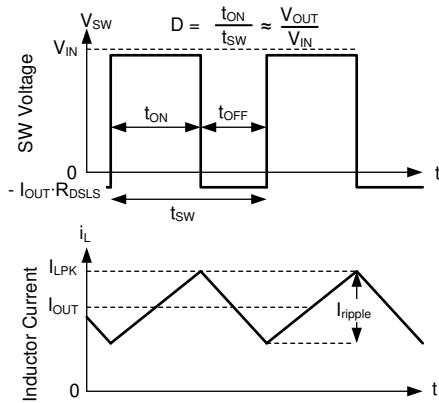

Figure 7-14. SW Voltage and Inductor Current Waveforms in Continuous Conduction Mode (CCM)
The following operating description of the LMR36506 refers to Section 7.2 and to the waveforms in Figure 7-14. In CCM, the LMR36506 supplies a regulated output voltage by turning on the internal high-side (HS) and low-side (LS) switches with varying duty cycle (D). During the HS switch on-time, the SW pin voltage, V_{SW} , swings up to approximately V_{IN} , and the inductor current, i_L , increases with a linear slope. The HS switch is turned off by the control logic. During the HS switch off-time, t_{OFF} , the LS switch is turned on. Inductor current discharges through the LS switch, which forces the V_{SW} to swing below ground by the voltage drop across the LS switch. The converter loop adjusts the duty cycle to maintain a constant output voltage. D is defined by the on-time of the HS switch over the switching period: